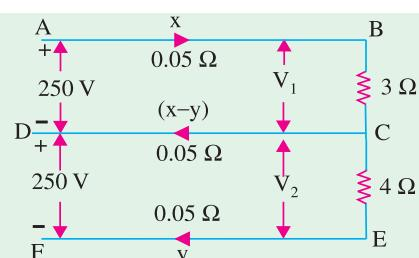

Fig. 40.35
**Solution.** Let the assumed directions of unknown currents in the three conductors be as shown in Fig. 40.35. Applying KVL (Art. 2.2) to closed circuit  $ABCDA$ , we have